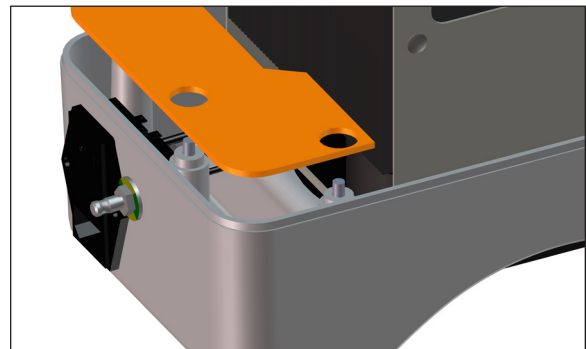

Figure 142 - Step 4 Remove shield
4. Remove the plastic shield and set it aside (Figure 142).